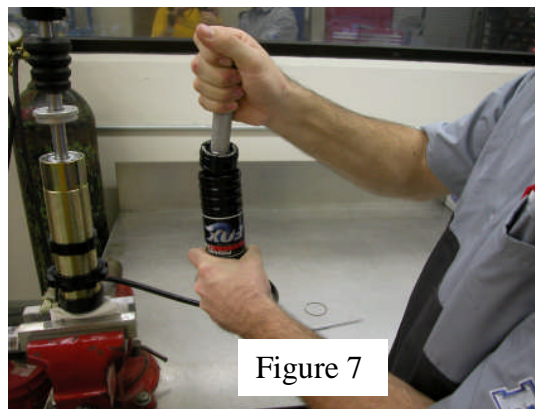

Figure 7
12. Thread reservoir cap extraction tool into reservoir end cap and remove using a twisting motion. Set reservoir cap aside on a clean, lint free paper towel. **(Figure 7)**